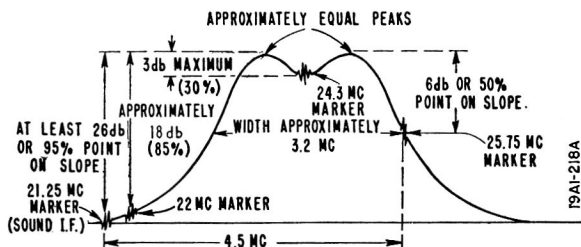

Figure 28. Overall IF Amplifier Response Curve.
- Alignment adjustments, connection points, and response curves are shown in figs. 28, 29, 30.
- e. Check curve obtained against the ideal overall IF amplifier response curve shown in figure 28. If necessary, retouch (stagger tube) A1, A2, A3, and/or A4 as required.
It is important that marker pips be in the proper location on the response curve as shown in figure 28. Correct locations of 25.75 MC marker should be 6db below peak (50% point on slope of curve). The 22 MC marker should be at the opposite side of the response curve, located approximately 18db (85%) below the peak. The 21.25 MC marker should be located at least 26db (95%) below the peak. The ideal location of the 2.25 MC marker is approximately 32db (97%) below the peak and may or may not be visible.